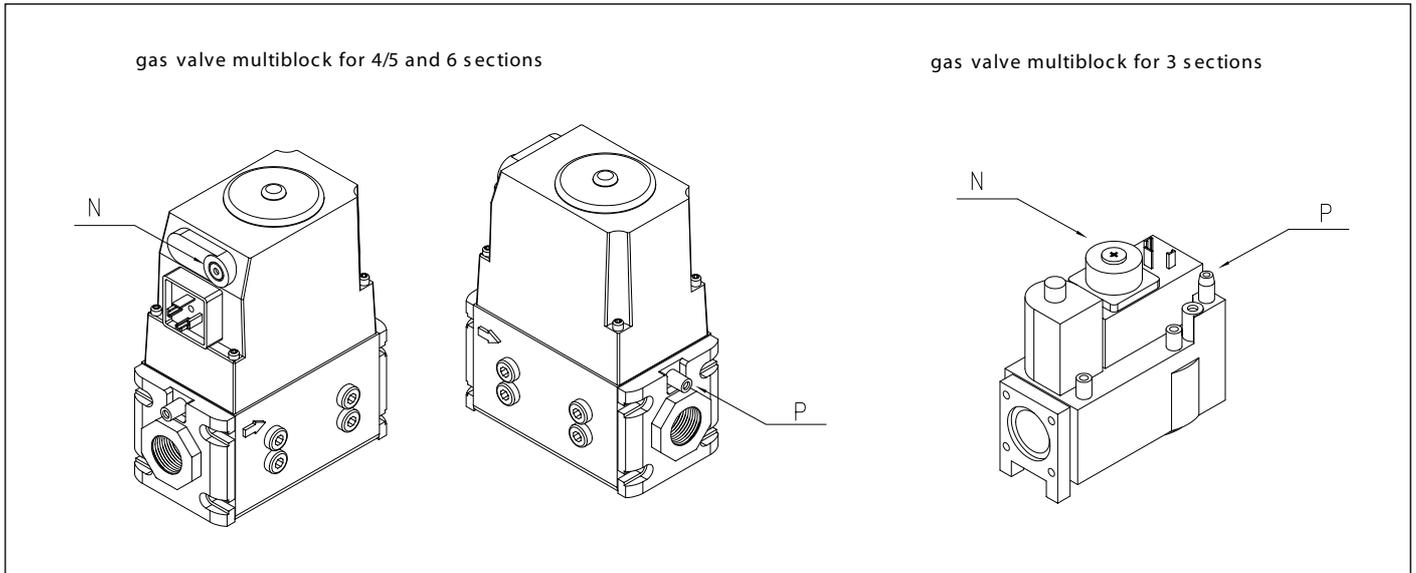

Fig. 23 Zero point adjustment gas valve multiblock
- 16e. When full load is reached, check gas pressure (with removed front casing) against Table 22. The pressure has to be 0 mbar. Adjust if necessary using the adjustment screw on the gas valve multiblock. Re-adjustment takes place with the zero point adjustment of the gas valve multiblock (see Fig. 23).